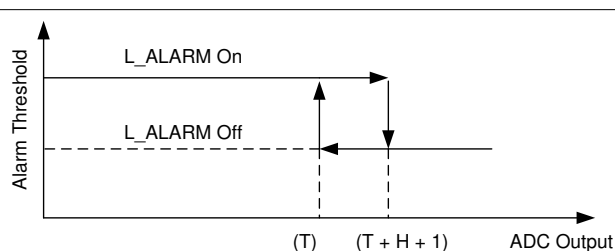

图 7-18. Low ALARM Hysteresis
Similarly, the input low alarm is triggered when the digital output falls below the low alarm lower limit [low alarm threshold (T)]. The alarm resets when the digital output is greater than or equal to the low alarm higher limit [low alarm (T) + H + 1]. This function is shown in 图 7-18.